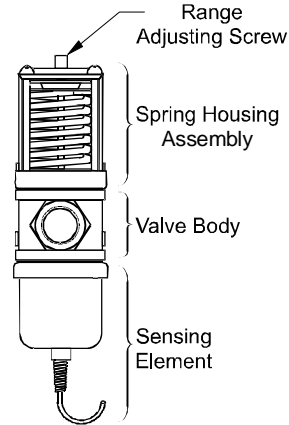

Figure 2: Valve Components
To raise the valve opening point on direct-acting valves, turn the adjusting screw counterclockwise. To lower the valve opening point, turn the range adjusting screw clockwise. See Figure 2. The closing point of the valve is not adjustable. Pressure-actuated valves close approximately 3 to 7 psi (21 to 48 kPa) below the opening point, and temperature-actuated valves close approximately 3 to 5°F (1.7 to 2.8°C) below the opening point.
2. Remove the four screws holding the spring housing and remove the entire housing assembly. See Figure 2.